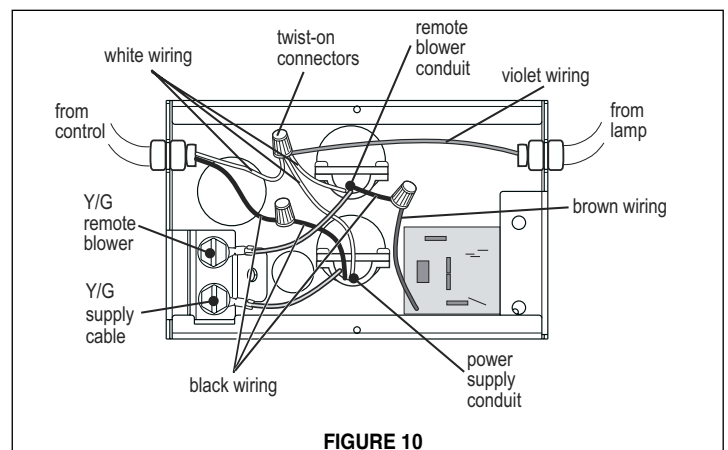

FIGURE 10
8. Remove the wiring box cover by removing the two screws. (See **FIGURE 10** for reference) Insert the cable of the remote blower into the knockout hole of the rangehood. Insert the power supply cable into the hole of the rangehood. Connect the green ground wire from the power supply to the ground screw. Connect the green ground wire from the remote blower to the other green ground screw. Connect the black remote blower motor wire to the brown rangehood wire with a twist-on wire connector. Next connect together with a twist-on wire connector the following wires: